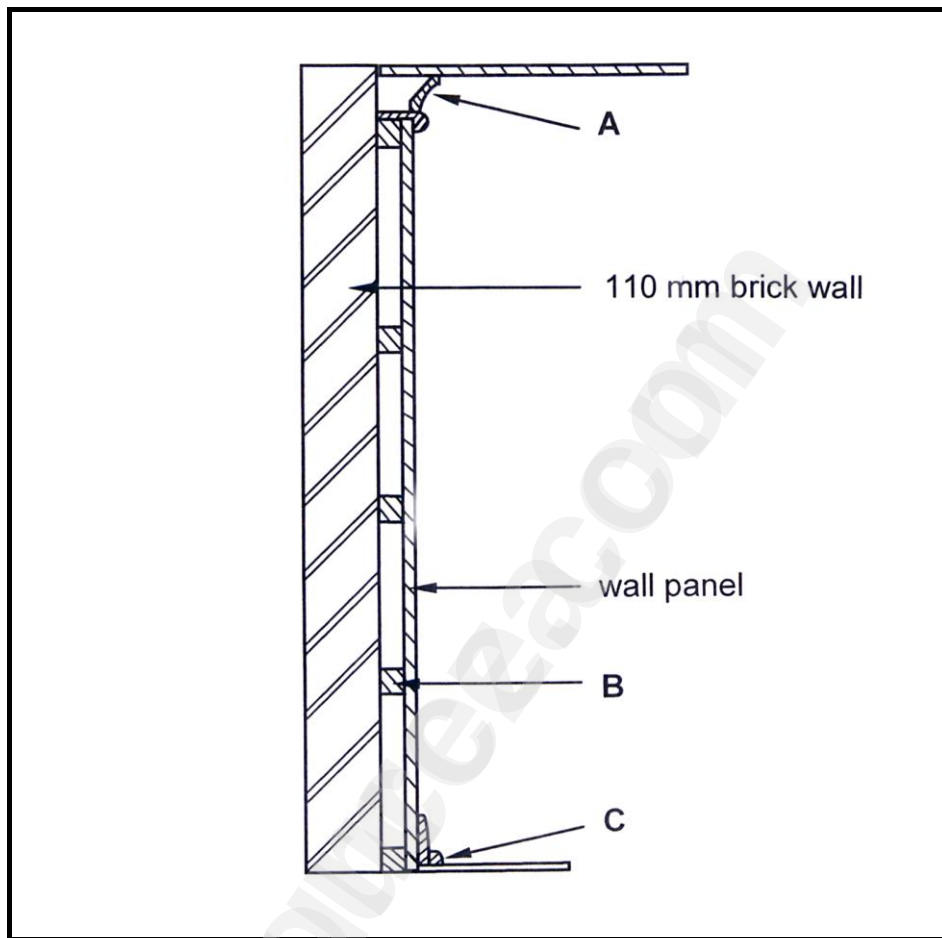

FIGURE 3.6
- 3.6 FIGURE 3.6 below shows the sectional view of a tongue and groove wall panel from the floor to the ceiling, joined to a 110 mm brick wall. Study the drawing and answer the questions that follow.